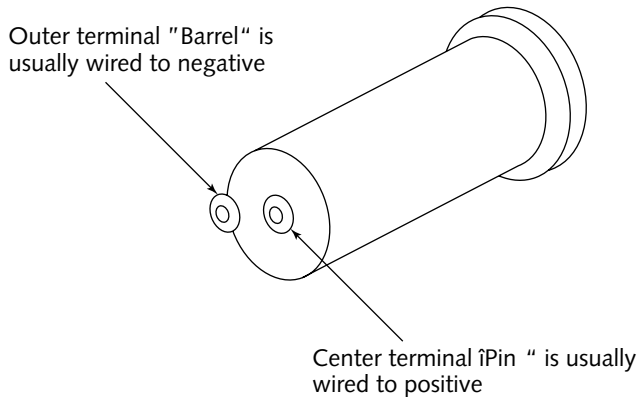

FIGURE 10-12: Power jack soldering terminals
1. Obtain and install a panel-mount power input jack that will fit on your instrument (see Figure 10-12).